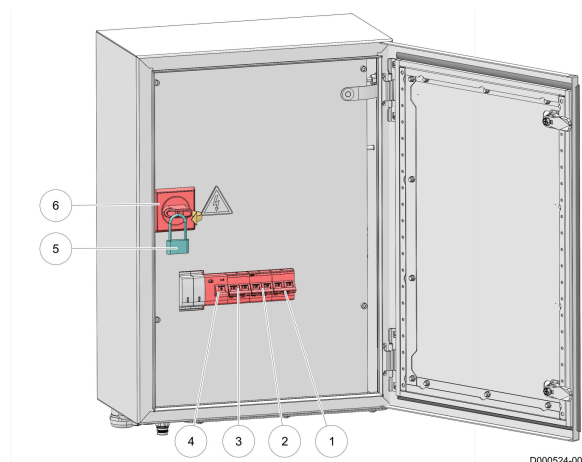

Figure 11. Main power supply switch RU
5. Set the circuit breakers one by one in the OFF position from right (1) to left (4) (see figure 11 on page 3-8).
6. Set the main power supply switch (6) in the OFF position.
7. Install a padlock (5) on the main power supply switch (6) of the robot unit.